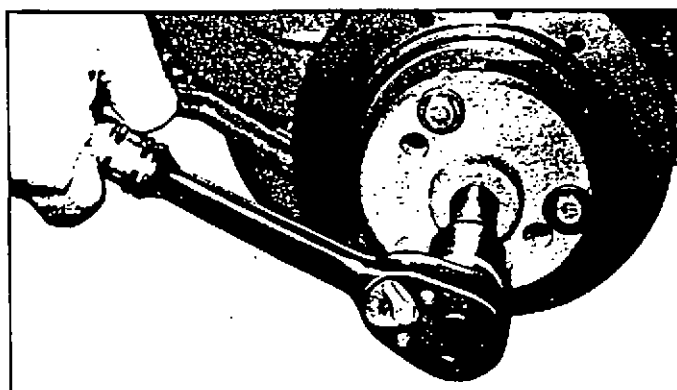

Fig. 10L—Removing Torsional Damper
3. Install Tool J-6978 to damper and turn puller screw to remove damper (fig. 10L). Remove tool.